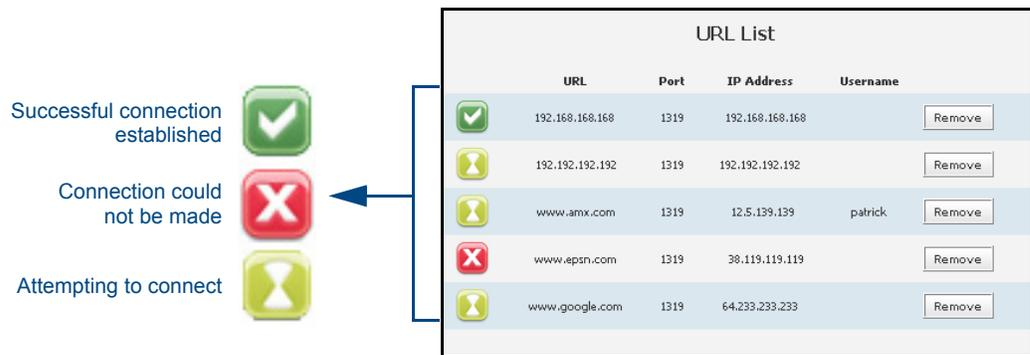

FIG. 56 URL List dialog (with entries)
10. Confirm that the newly added URLs appear within the URL List dialog (FIG. 56).
- Remove an individual URL entry by pressing the **Remove** button on that URLs row listing within the URL List dialog (FIG. 56).